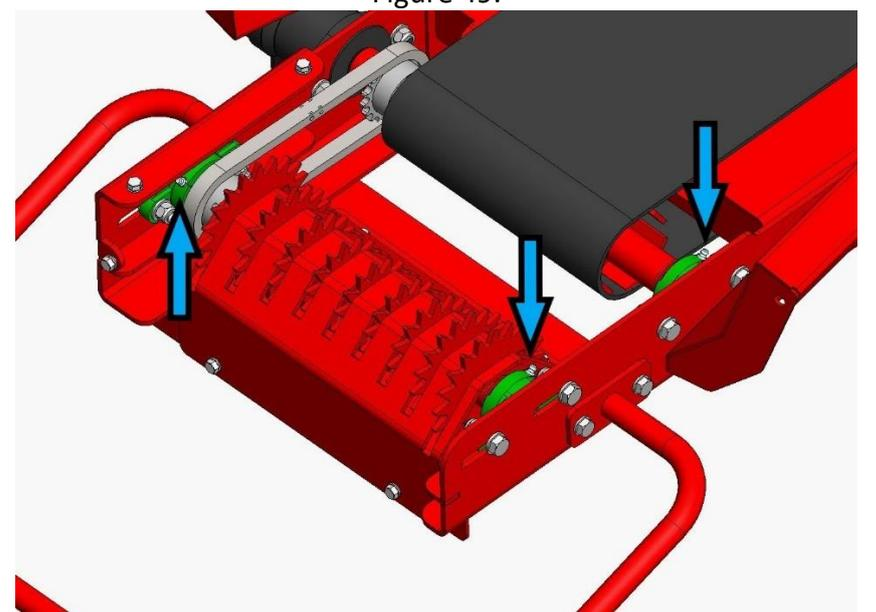

Figure 50.
10. Grease nipples of in-feed roller bearings (3 pcs, Figure 50).